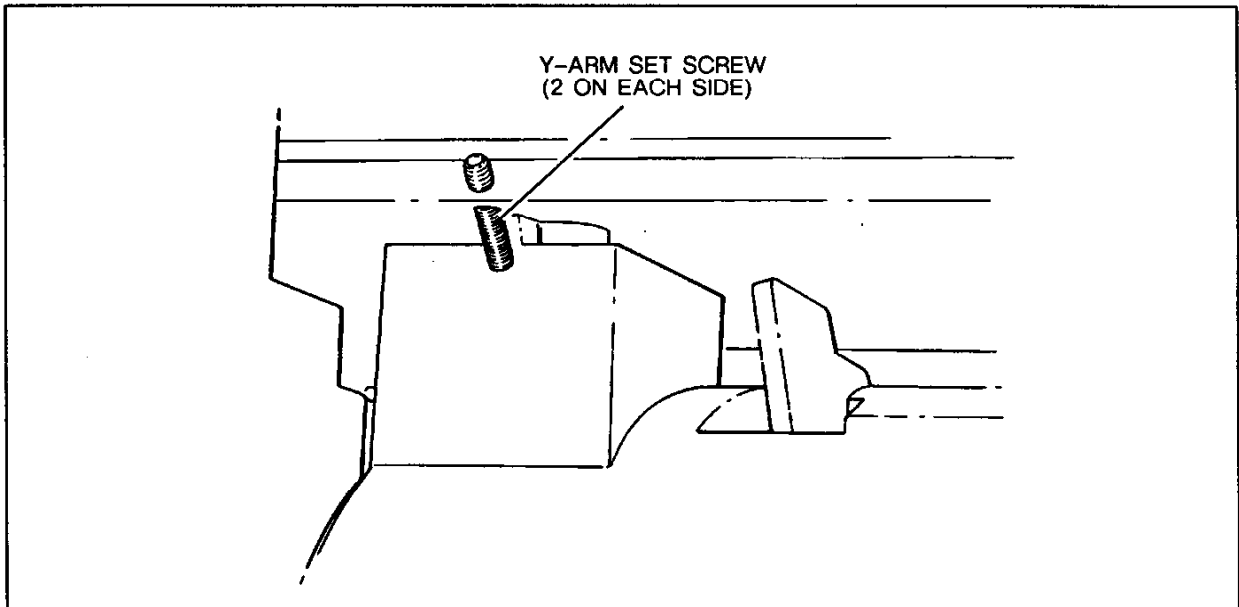

Figure 7-3. Y-Arm Adjustment
- a. Turn the plotter line switch to OFF (O) and disconnect the ac power cord.
- b. With the Y-arm loosely mounted, adjust the front and rear set screws on each end of the Y-arm so that the pen carriage crutch rides along the middle of the groove in the center platen. See Figure 7-3.